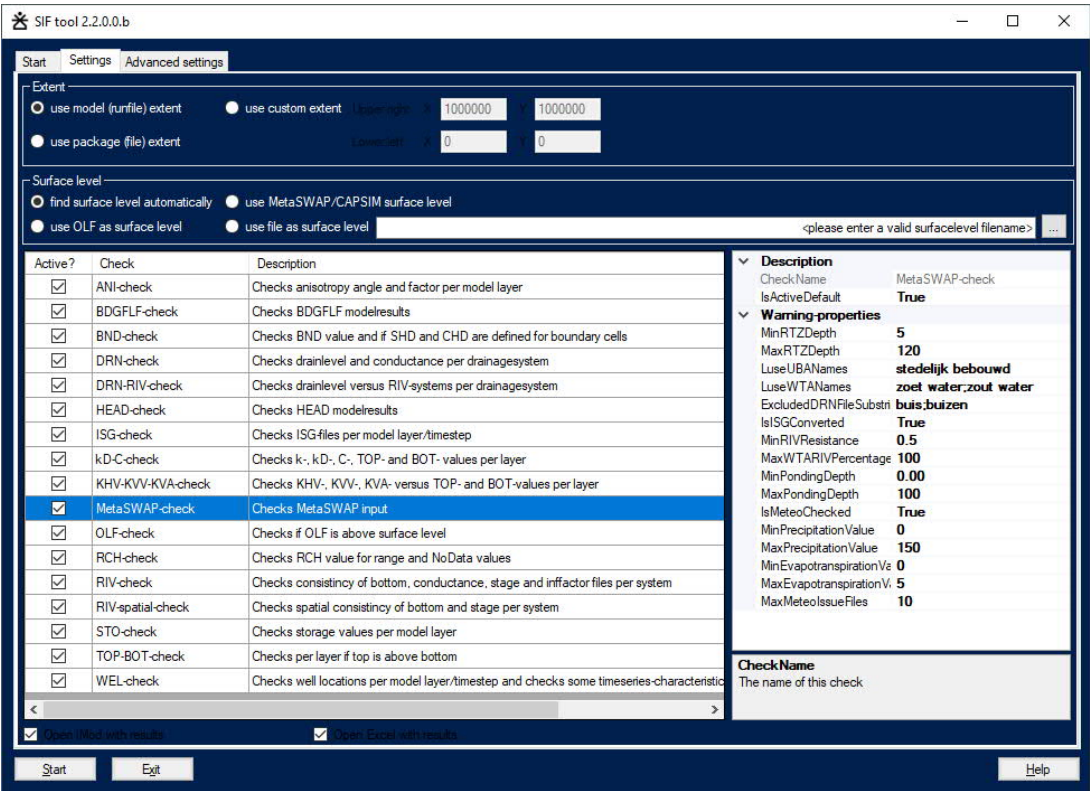
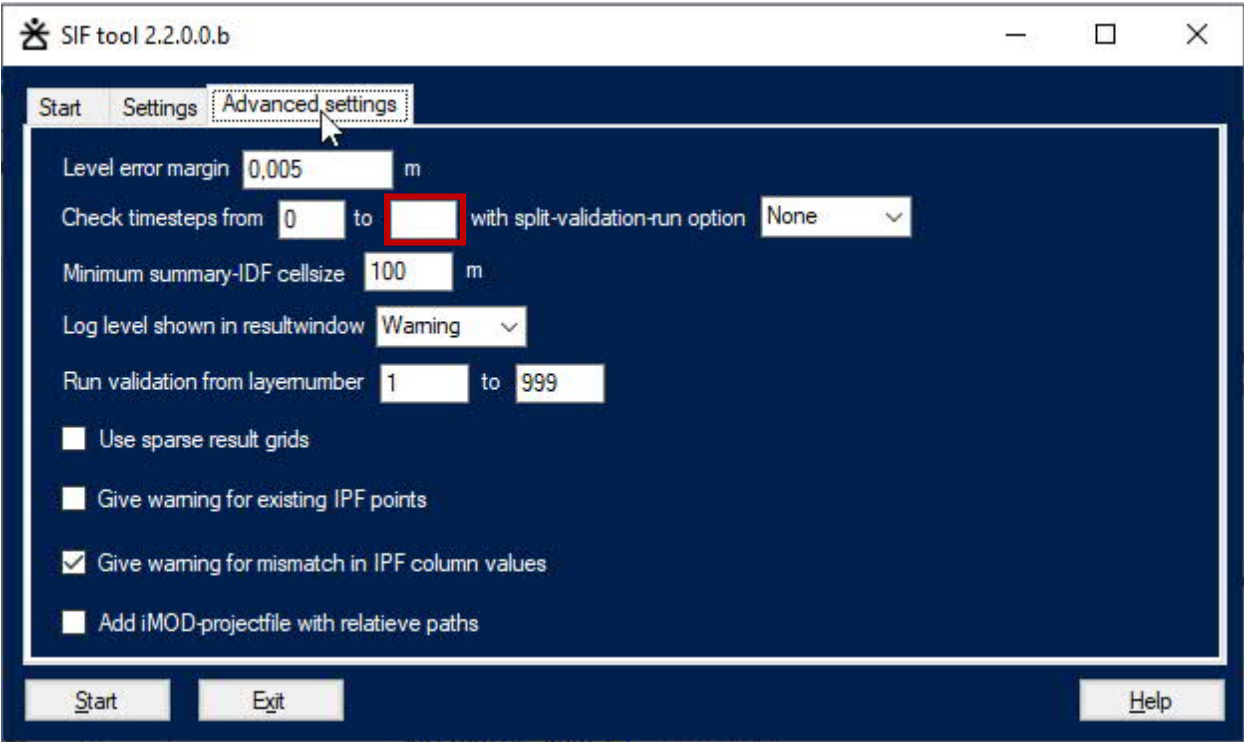

Figure 2.1 Screenshot of 2nd tab in which selected checks and settings per check can be defined
Figure 2.2 3rd tab with general settings. The red marked setting defines the maximally checked stress period in transient checks.
mode, since for each setting a short description is given and a check for valid input is provided. See figure 2.1 for an example of the 2nd tab, in which settings can be adjusted per check. In the 3rd tab (Advanced Settings) a number of general settings are available, such as a range of checked model layers, see figure 2.2. Optionally, you can refer to another XML-file via the /s option. Every adjustment to settings from the 2nd tab is immediately saved, without notification, in the used settings file. Settings from the 3rd tab must be manually adjusted in the XML-file to have them available as default for next time.
- The number of stress periods that are checked can be limited via MaxTimestep (see figure 2.2). For example 365 can be specified as the maximum number of stress period or time step, to only check the first year with a (first) summer and winter period. By default the field is blank and all time steps are checked. If a maximum time step is specified and there are more stress periods, a warning will be given in the log file and resulting Excel file, see Figure 2.6.
Given the size and complexity of current regional models and the nature of automatic checks, there will also be false reports of potential issues. Likewise, sometimes no mention of an existing issue is made. This is especially important with plausibility checks. To avoid producing a huge list of incorrectly reported results, several settings are available that can be adjusted to initially focus on the largest problems. See figure 2.1 and section 2.2.